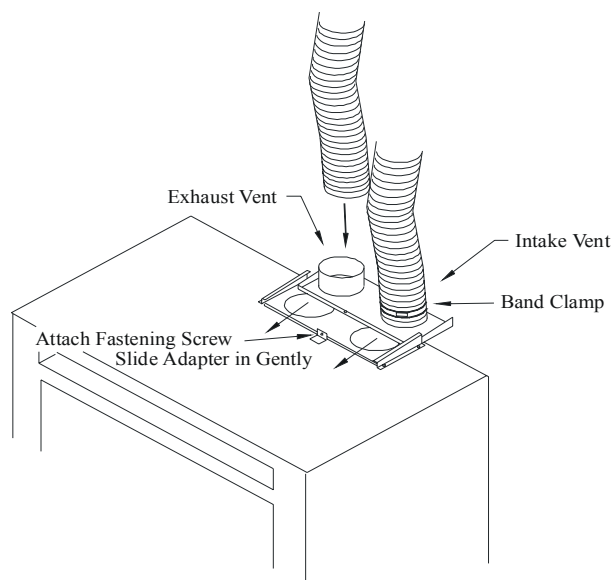

Figure 7- Connecting the Appliance Adapter
- 13) Slide the Exhaust Vent liner over the left outlet on the appliance adapter. (See figure 7) Secure the liner with one 3" band clamp.